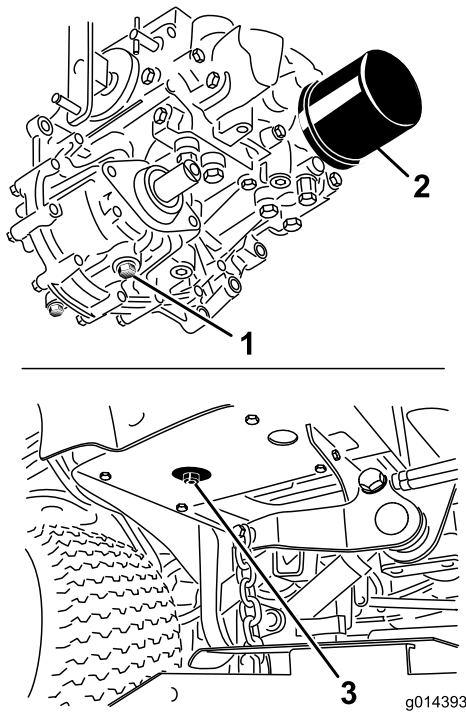

Figure 47
3. Place a large pan under the hydraulic reservoir and transmission case and remove the plugs, draining all the hydraulic fluid (Figure 47).
4. Clean the area around the hydraulic-oil filter and remove it (Figure 47).